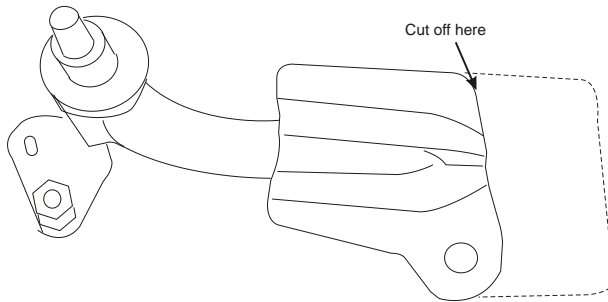

Figure 1.1
- ☐ Remove the lower fan shroud bracket and cut away the section shown in Figure 1.1.